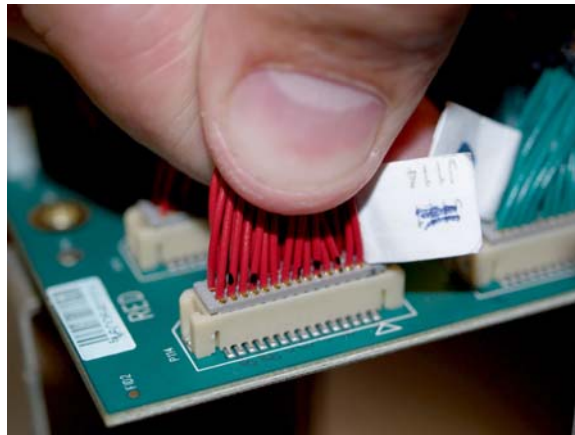

Figure 32. Properly Disconnecting LVDS Cable
4. Grasp the entire wire set as close as possible to the LVDS cable connector and pull up gently to disconnect the cables. (Figure 32.)
When replacing an LVDS style cable, the connector is keyed to permit insertion in only one direction (see Figure 32.) Make sure that you connect the proper cable to the proper connector, i.e., P# matches J#. Make sure to re-route all cables through the bracket on the HDPD. Allow the cables to loosely loop around components avoiding sharp changes in direction, which could cause the cables to kink.